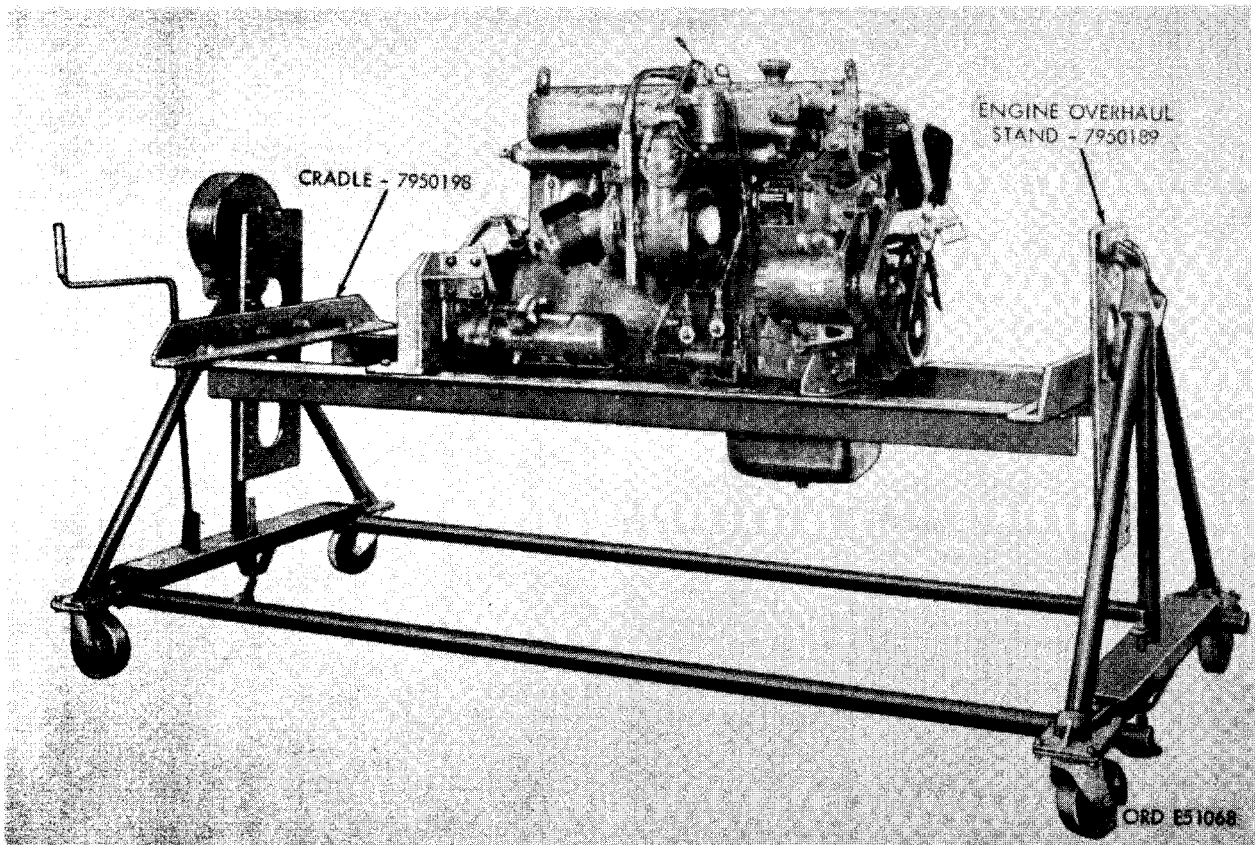

FIGURE 224. ENGINE ASSEMBLY MOUNTED ON ENGINE OVERHAUL STAND.
b. Install Engine Assembly on Overhaul Stand. Lower the engine assembly on the engine overhaul stand. Aline the engine mounting bracket holes with the slotted openings in the cradle side rails. Secure engine cradle side rails using four 5/8 x 1-3/4 cap screws and 5/8-inch plain nuts through each engine mounting bracket as shown in figure 224.